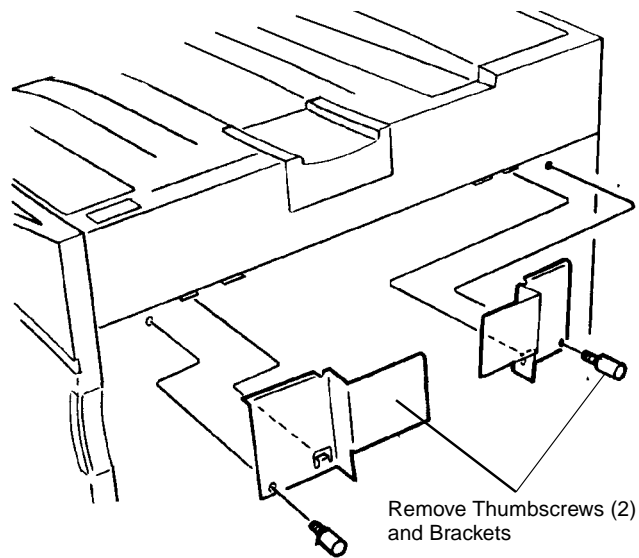

Figure 1 Removing Brackets
4. Remove Front and Rear Brackets (Figure 1).